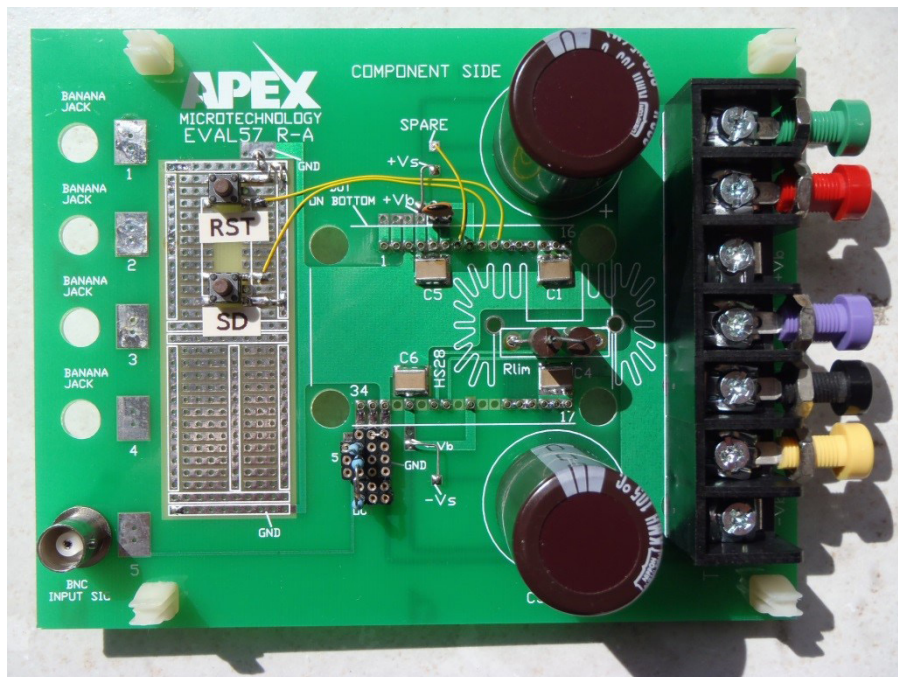

Figure 6; Completed EK57 PCB, ready for functional test (banana jacks for easy connection only!)
- C. Use 2 resistors of 0.27Ω / 1W (or other values, but then the test criteria will change, too) to set an over-current trip point of ~1.2A. Remember to connect (solder) each side of the current sense resistor (or of the series combination) to two adjacent holes in the PCB, where R_{LIM} should go (also see Figures 6 and 7).
E. The EK57 now looks like this (Figures 6 and 7):
- b. To connect a volt meter: the positive terminal should be connected to the “SPARE” screw terminal (green banana jack in Figure 6), the negative terminal to “GND” (black banana jack in Figure 6). The temperature can then be calculated as follows: